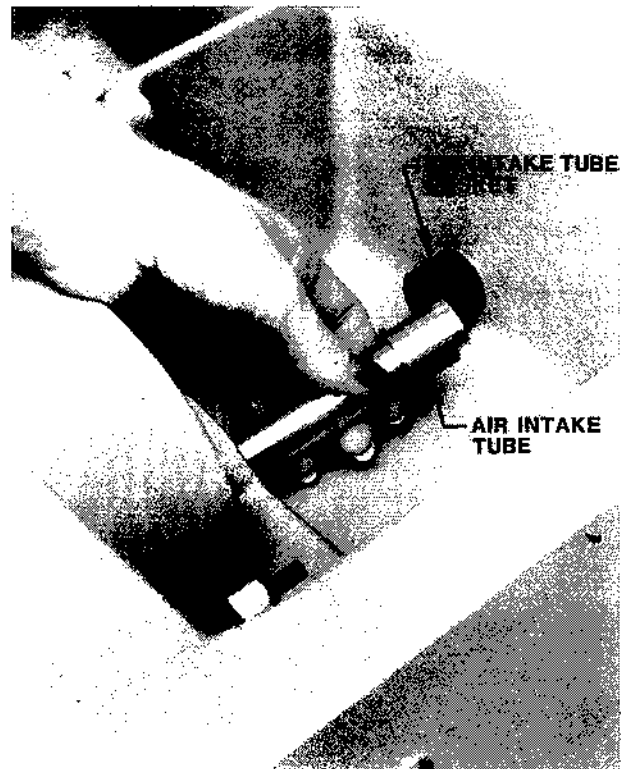

FIGURE 5.5 REMOVAL OF AIR INTAKE TUBE
- F. REMOVE AIR INTAKE TUBE.** Grasp the Air Intake Tube (Figure 5.5), twist and pull it toward the front of the Incubator until the end of the tube clears the gasket. Remove the tube from the base assembly.
- A. **INSTALL THE AIR INTAKE TUBE** (into the Base Assembly) by reversing the procedure shown in Figure 5.5.